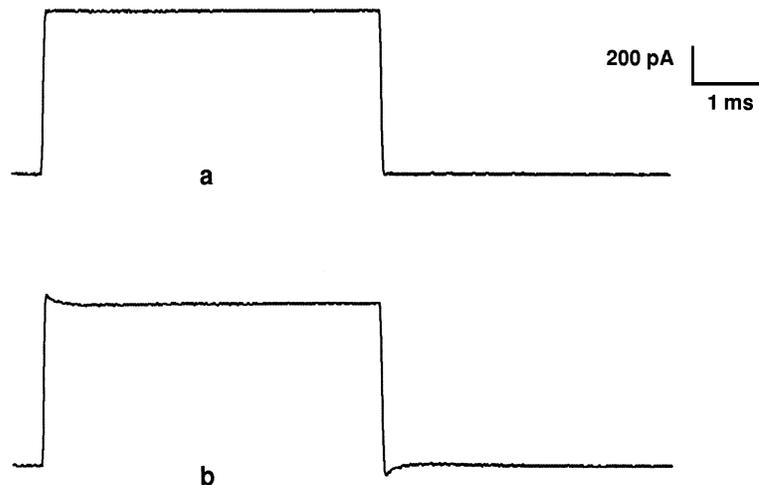

Figure 24. Frequency tuning of whole cell configuration.
- Adjust RT31 until you get a response which looks like either "trace a" of Figure 24.